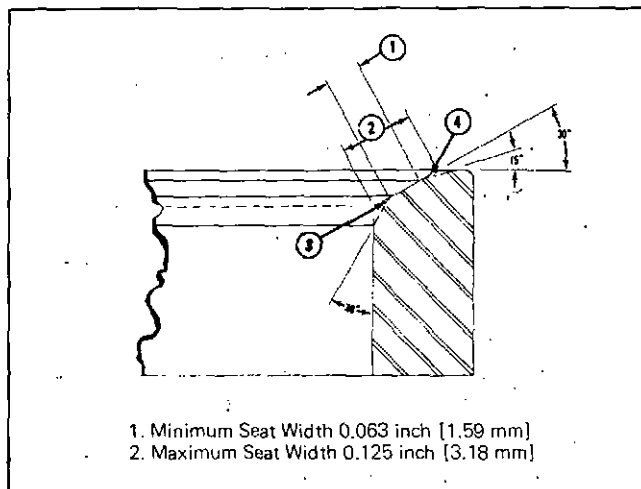

Fig. 2-10 (N10228). Cross-Section Of The Valve Seat Insert.
2. Check the width of the valve seat. The valve seat must be a minimum of 0.063 inch [1.59 mm] (1), Fig. 2-10 to a maximum of 0.125 inch [3.18 mm] (2).
- f. If the area (2), Fig. 2-10, is wider than 0.125 inch [3.18 mm], use a grinder wheel that has a 15 degree grinding angle to make the width narrower. Do not grind into the chamfer on the valve seat insert.